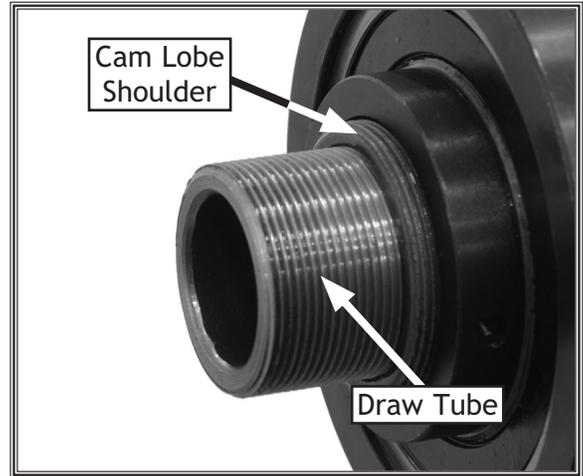
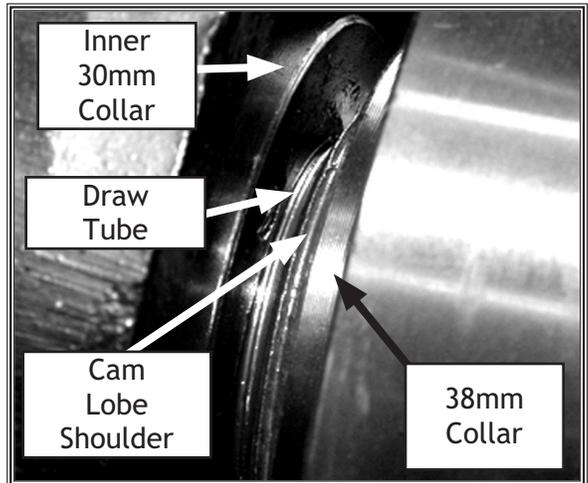

Figure 14. Shoulder on threaded cam lobe and draw tube.
Figure 15. Inner 30mm collar nearly touching threaded cam lobe shoulder.
6. Turn the two 30mm collars clockwise on the draw tube until they contact the shoulder on the threaded portion of the cam lobe, as shown in **Figure 14** and **Figure 15**. **Figure 14** is shown without the 30mm collars to more clearly show the cam lobe shoulder.